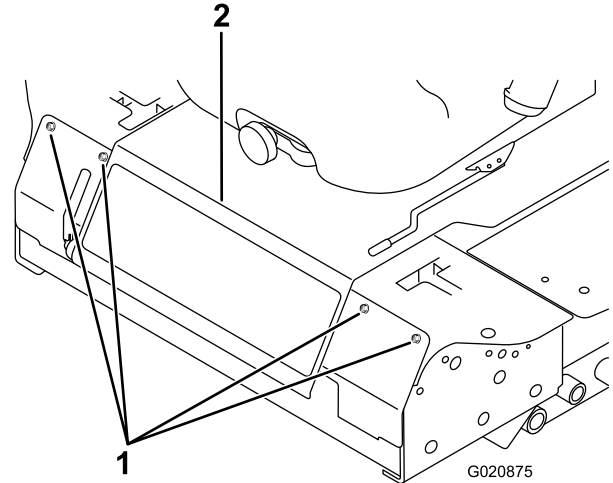

Figure 47
2. Remove the bolts securing the front panel and remove the panel (Figure 47).